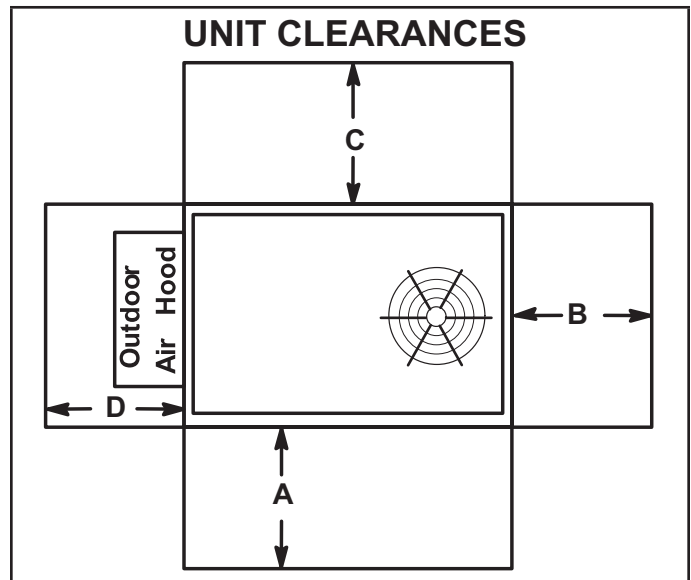

FIGURE 1
See FIGURE 1 for unit clearances.
The LHX unit is ETL/CSA certified as a heat pump with cooling and with or without auxiliary electric heat for outdoor installations only at the clearances to combustibles as listed on the unit nameplate and in FIGURE 1.
- 2 - Specified installation clearances must be maintained when installing units. Refer to FIGURE 1.